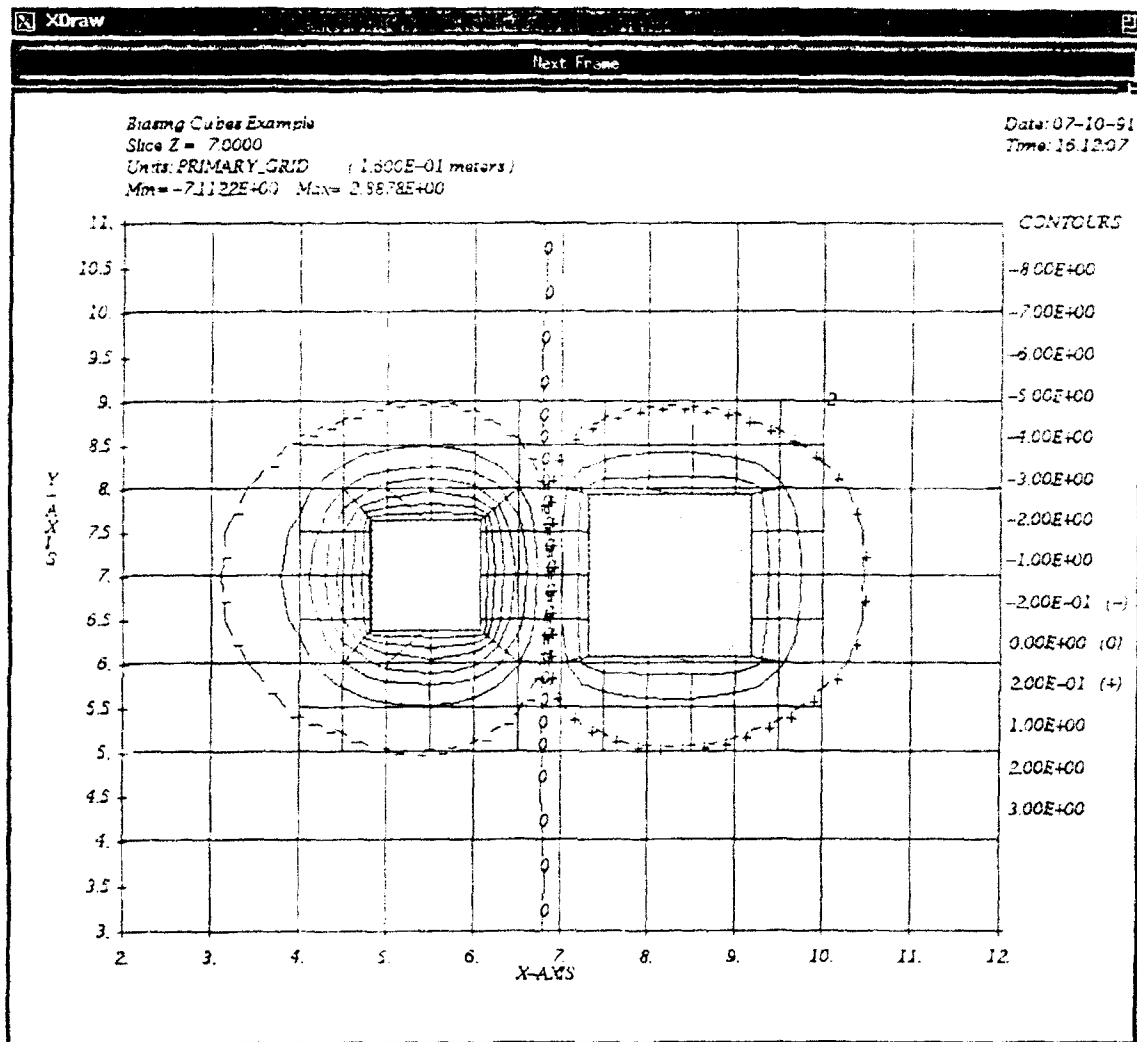

Figure 5.8 Contour plot of potentials for sample problem, black-and-white version.
11. Return to the pull-down menu, and select "Make Plot" and then "Show Plot." A black-and-white version of the contour plot appears in figure 5.8. Hit <RET> to go back to the menu. Exit "Plot" menu, and then exit Scanner.